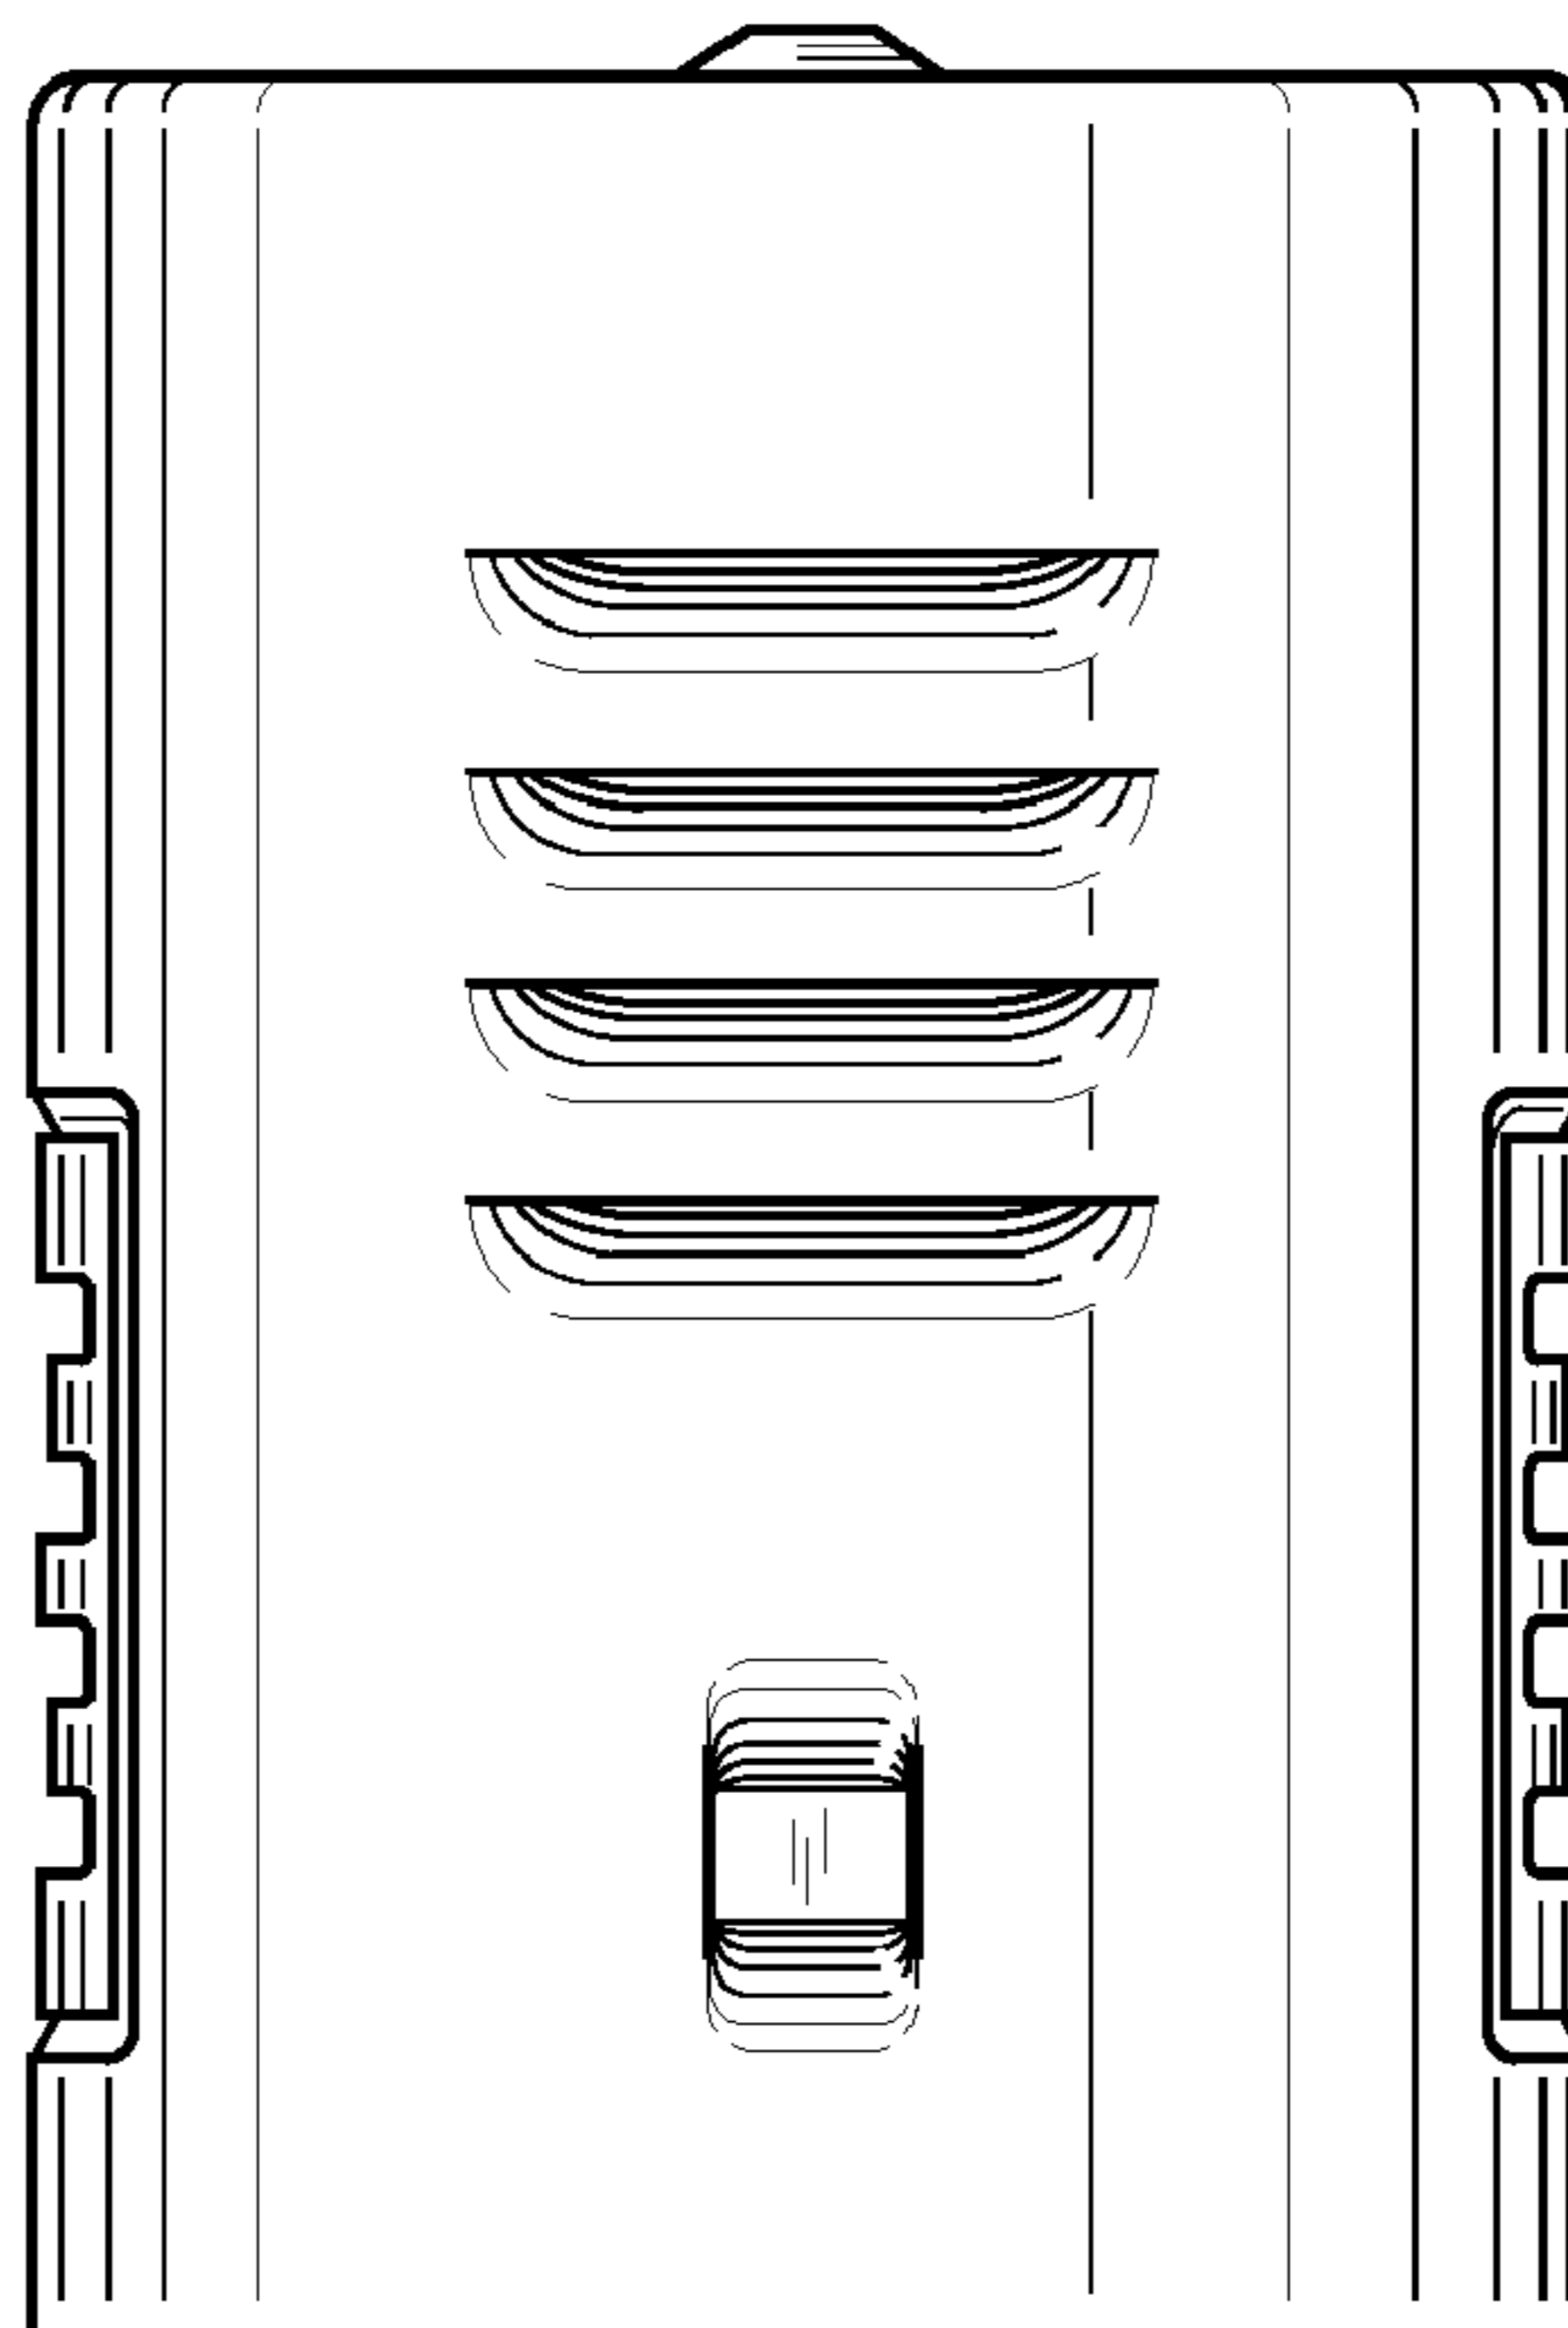

FIG. 9
- FIG. 9 is a side view showing one side of the housing;